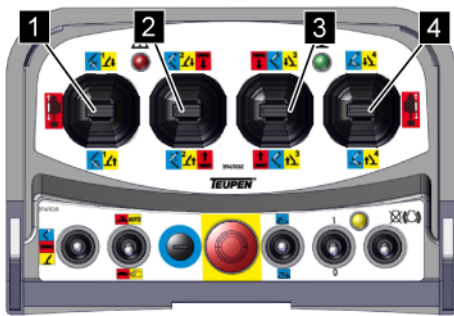

Fig. 124: Outrigger control levers
10. Use the control levers (Fig. 124/1 to 4) to operate the outriggers 1 to 4 as per the following table.